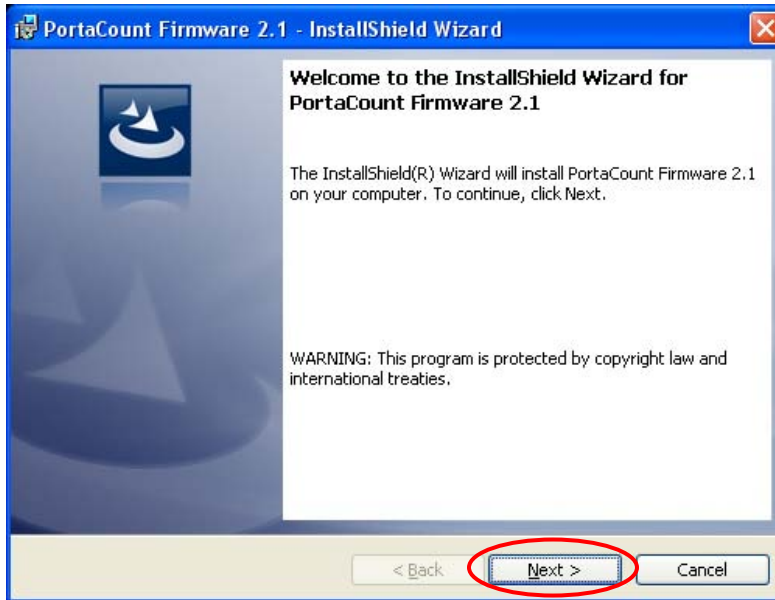

Figure 2
3. Select the **Next >** button to continue the installation (Figure 2).